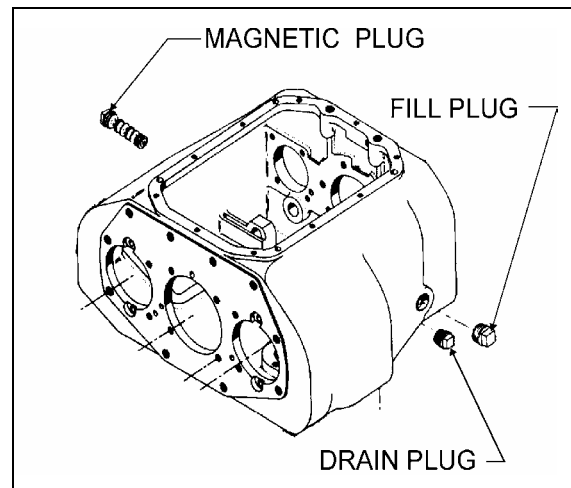

FIGURE 4: PLUGS
Unscrew the fill plug and check if the oil level is at plug thread level (Fig. 4).
1. Unscrew the drain plug (Fig.4) and allow the oil to drain into a suitable container.